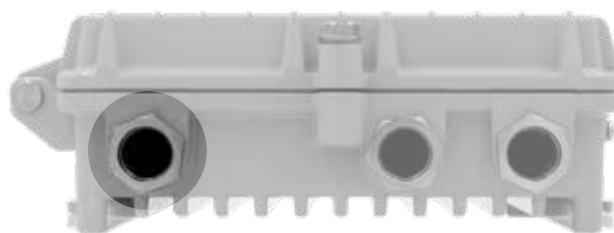

Fig. 2
2. Push the connector pin firmly in the port hole (*Fig. 2*). The amplifier is equipped with a double spring contact, so no screw is needed to fasten the coaxial connector pin.